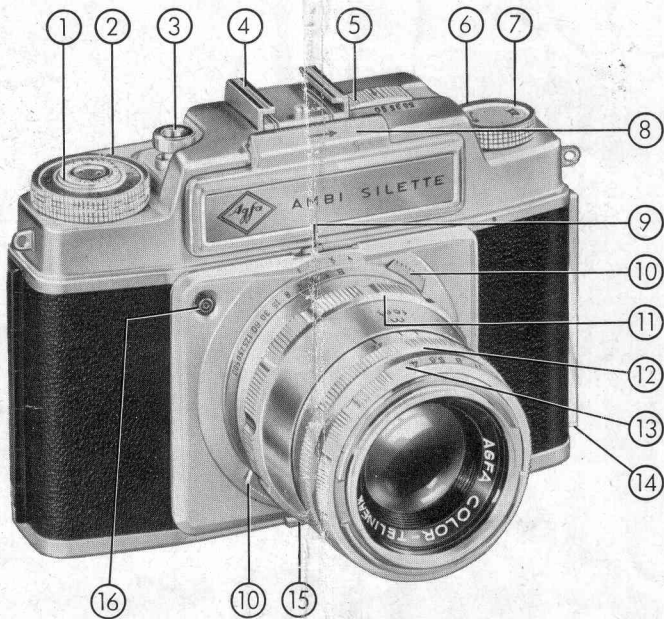

Fig. 1
A loaded camera should never be left for any length of time exposed to light without its lens. In changing the lens, therefore, do it as quickly as possible and always in the shadow of the body, so that no direct light reaches the unprotected shutter. To remove the lens from its mount, press the catch (see short arrow, Fig. 2) at the same time giving the lens a small turn to the left. In doing so, the lens should always be gripped, as shown, by the fixed milled ring (12) (Fig. 1) behind the diaphragm ring. The lens is then simply lifted out while a certain amount of resistance has to be overcome.
When the protecting cover has been opened by pressing it in the direction of the arrow, on looking into the large, brilliant viewfinder of the Ambi Silette the fields of view for the three focal lengths, 35, 50, and 90 mm., will be seen indicated by reflected frames. As already mentioned, these frames can be selected by means of a small slide ⑤ (Fig. 1) on top of the camera, regardless of which lens may be in the camera at the time. This enables the user to examine the subject successively as limited by the respective fields of view, and so to decide which focal length will be most suitable. The accompanying diagram (Fig. 7) indicates which reflected frame corresponds to each position of the slide. It should be noted that the corners of the largest frame (corresponding to the 35 mm. wide angle lens) remain visible even when the frame for the standard 50 mm. lens is reflected; this frame is emphasized by specially thick lines.
If the milled focusing ring ⑪ (Fig. 1) is now moved with the index, or better still, with the middle fingers of both hands (see Fig. 8), the overlapping images in the centre will approach one another and at one position will completely coincide (Fig. 10).